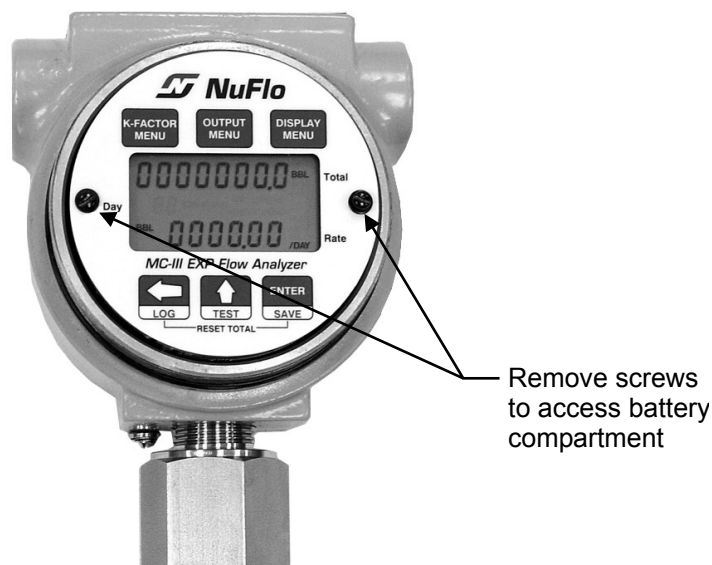

Figure 6.3—Removal of faceplate/keypad assembly
2. Using a small standard blade screwdriver, remove the two #4-40 × 7/8" screws located to the right and left side of the display (Figure 6.3, page 94).